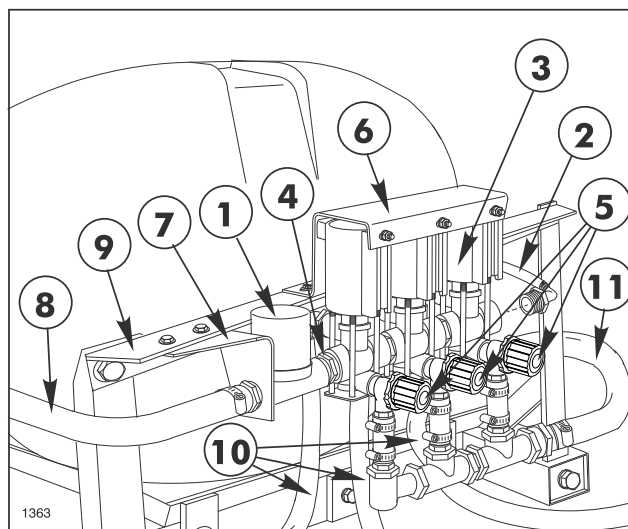

FIG. 10
1. Apply thread sealer and assemble all components of the Valve and Solenoid Assemblies, including the Supply and Overflow Hoses, as shown in FIG. 10.